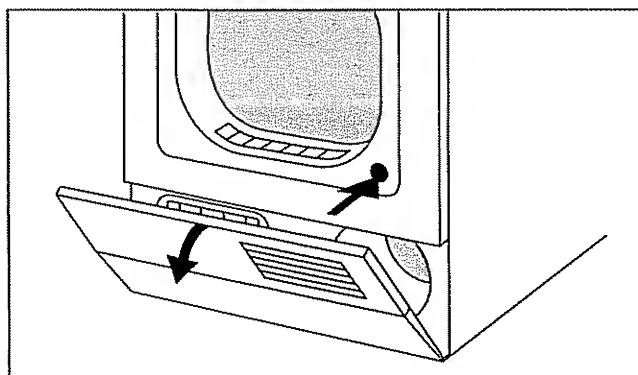

Figure 6
3. Press the button for opening the heat exchanger/inlet panel, as shown in Figure 6.